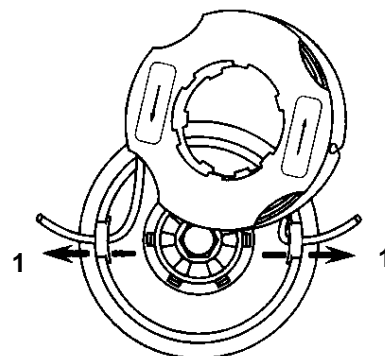

Figure 21
8. Thread the two ends of the line through the eyelets, place spool into head and pull line to release from grooves (Figs. 21).